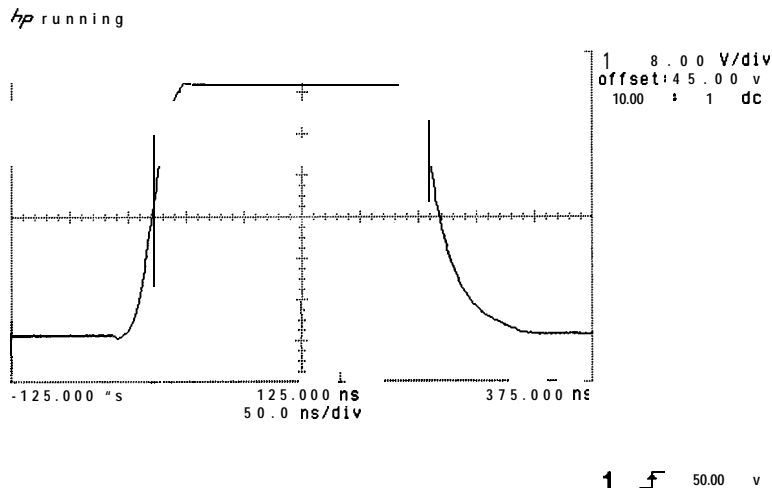

Figure 3-29. 50V_{p-p} Signal
30. Adjust the spectrum analyzer front-panel INTENSITY control for 50 V peak-to-peak (6.25 divisions) as indicated on the oscilloscope. See Figure 3-29.